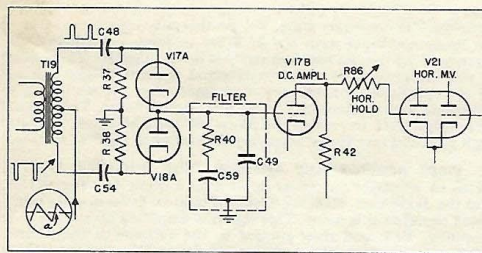

Fig. 6. Hor. Multivibrator and Sync
5. HORIZONTAL MULTIVIBRATOR AND AFC SYNC (SEE FIGURE 6)—The horizontal sawtooth oscillator makes use of a Type 6SN7GT tube, V21, in a conventional cathode-coupled multivibrator circuit. Instead of its frequency being controlled directly by the horizontal sync pulses, it is controlled by a d-c voltage on its controlling grid, the d-c voltage being a resultant of the phase error between the incoming sync signal and a sawtooth voltage derived from the output of the horizontal sweep amplifier. This voltage is called an automatic frequency control (AFC) voltage.
The AFC voltage is developed by the diode-connected triodes V17A and V18A by mixing the horizontal sync pulses at the secondary of transformer T19 with a sawtooth voltage waveform derived at the output of the sweep amplifier tube, V22. When the sync pulse occurs at the time "a" shown in the sawtooth waveform drawing in Figure 6, no voltage will be developed at the output of the filter. However, if the multivibrator runs faster or slower so that the pulse falls at a point other than at "a," a